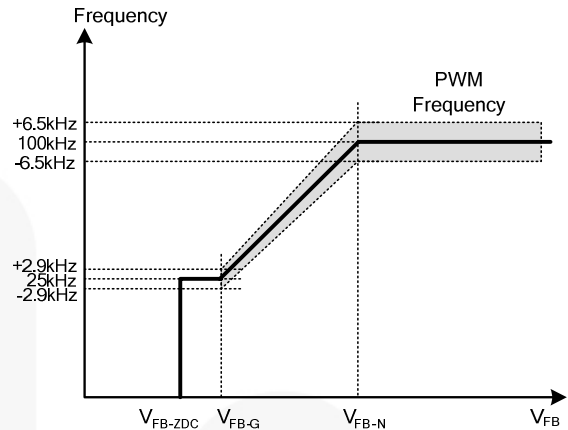
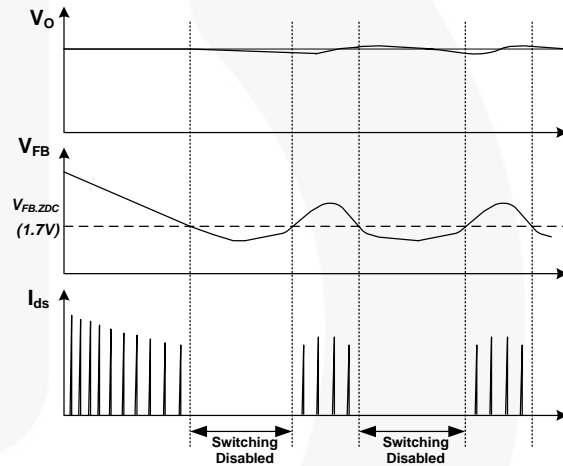

Figure 23. PWM Frequency
Figure 24. Burst-Mode Operation
The FAN6862H(HR) uses feedback voltage (V_{FB}) as an indicator of the output load and modulates the PWM frequency, as shown in Figure 23, such that the switching frequency decreases as load decreases. In heavy-load conditions, the switching frequency is 65KHz. Once V_{FB} decreases below V_{FB-N} (2.6V), the PWM frequency starts to linearly decrease from 100KHz to 25KHz to reduce the switching losses. As V_{FB} decreases below V_{FB-G} (2.1V), the switching frequency is fixed at 25kHz and FAN6862H(HR) enters "deep" Green Mode, where the operating current decreases to 2.5mA (maximum), further reducing the standby power consumption. As V_{FB} decreases below V_{FB-ZDC} (1.7V), FAN6862H(HR) enters Burst Mode. When V_{FB} drops below V_{FB-ZDC} , FAN6862H(HR) stops switching and the output voltage starts to drop, which causes the feedback voltage to rise. Once V_{FB} rises above V_{FB-ZDC} , switching resumes. Burst Mode alternately enables and disables switching, reducing switching loss in standby mode, as shown in Figure 24.